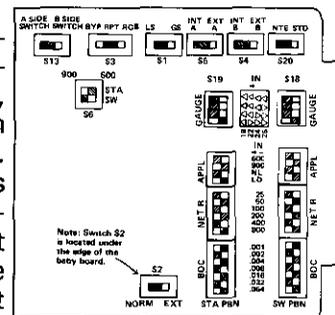

figure 3. 7213 option switch locations
3.06 The 7213's printed circuit board contains 16 option switches, the locations of which are shown in figure 3. Eight of these switches (one of which is a two-position DIP switch that controls two separate options) must be set before the module is aligned and placed into service. The other eight, along with the front-panel gain and eq1 switches, are used in alignment and are covered later in this Practice. Table 2 summarizes the 7213's printed-circuit-board non-alignment-related switch options; detailed instructions on selecting these options are provided below.